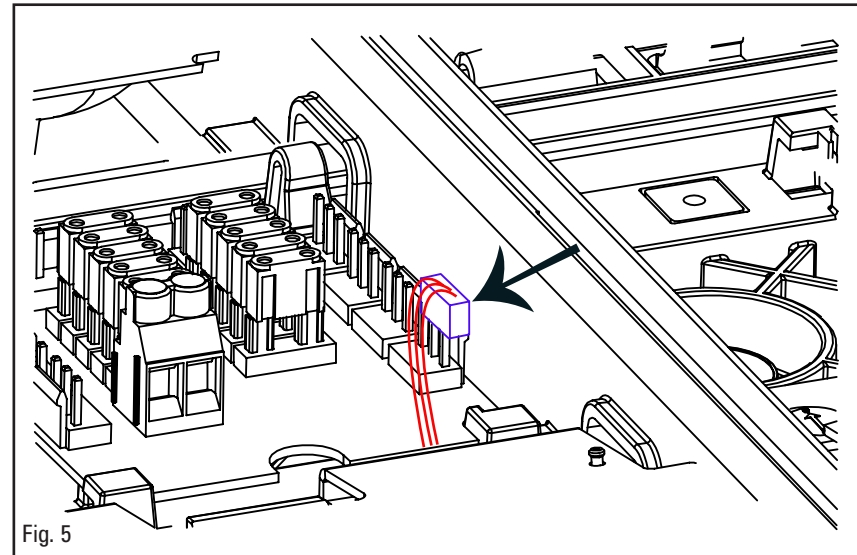

Fig. 5
7. Plug other end of the 3 wire harness into any available fused 3 pin connector on the power distribution board as shown in Figure 5.